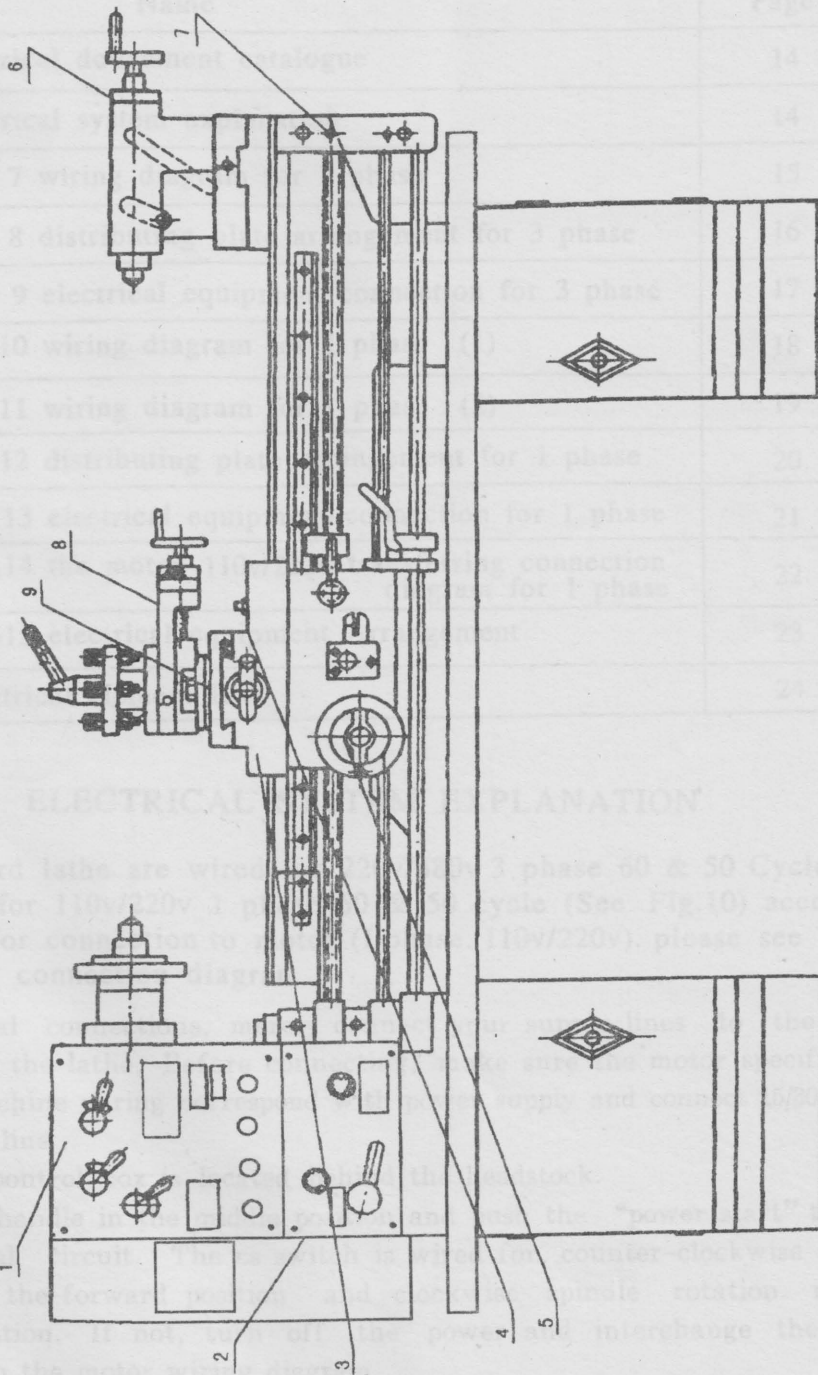

Fig. 6 Lubrication Chart
- \* All moving parts and sliding surfaces should be regularly lubricated with clean lubricating oil. Please refer to Fig. 6 for the lubrication holes.
- \* No.2 through 11 are lubrication points (see Fig. 6). They are oiled with oil gun twice a day.